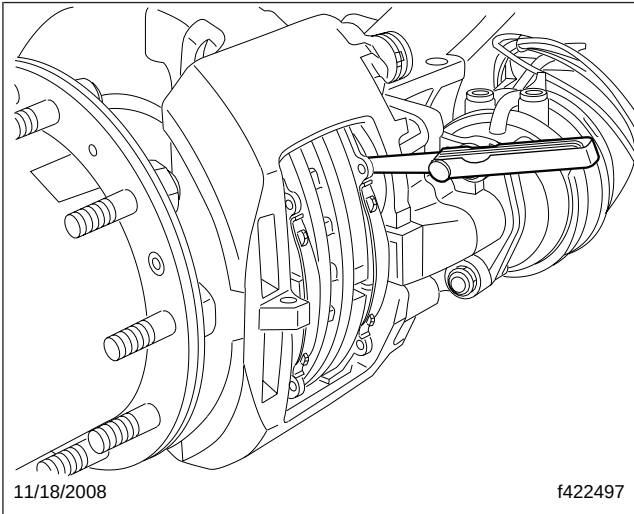

Fig. 7, Checking Brake Pad Running Clearance
- Set the total running clearance (sum of clearances on both sides of the rotor), between 0.024 to 0.043 in (0.6 to 1.1 mm). See Fig. 7.